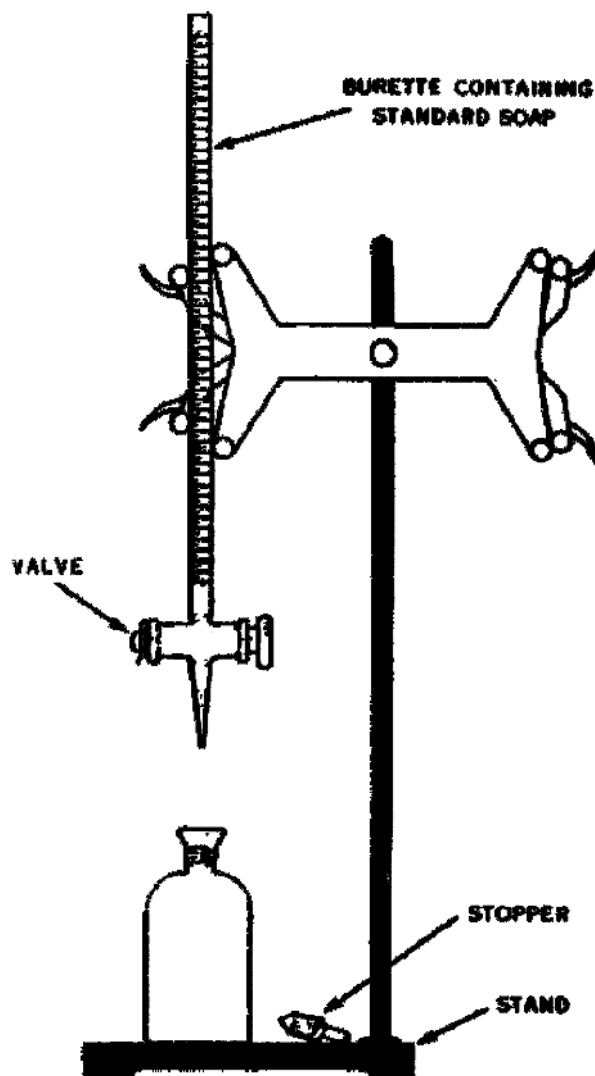

Figure 70. Soap hardness test equipment.
9. To begin the soap hardness test, measure 50 milliliters of the sample water into the hardness testing bottle. Add the *standard* soap solution to the water, 0.5 ml. at a time, from the soap burette, shown in figure 70. Shake bottle vigorously after each application and place it on its side. If no lather forms, continue adding 0.5-ml. portions of soap solution to a maximum of 6 ml and place the bottle on its side. Now you must use the formula below if you have a permanent lather to complete the test. If a permanent lather does not appear, see para 10. Hardness (p.p.m.)